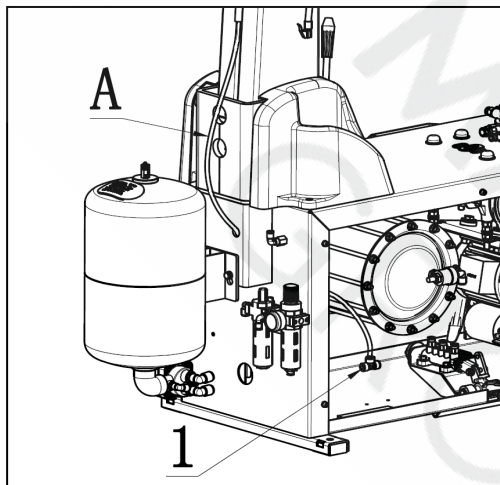

FIG13
- Connect the column air hose: insert the  $\phi 6$  (FIG13-1) into the connector (FIG13-A) behind the body like FIG13.